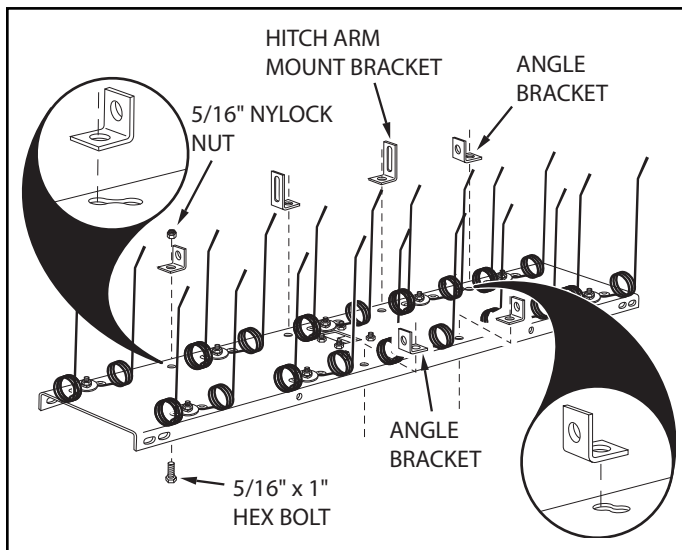
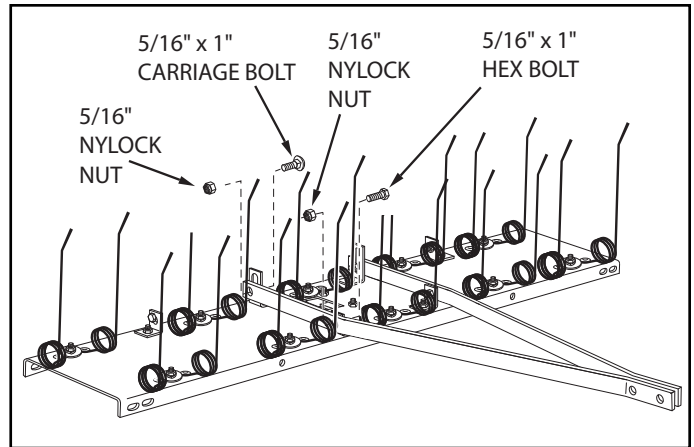
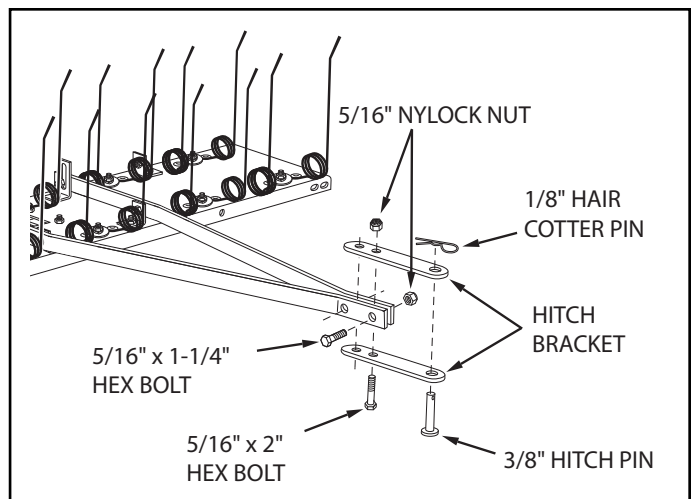

FIGURE 1
FIGURE 2
FIGURE 3
1. Assemble two (tall) hitch arm mount brackets and two (short) angle brackets (J) to the bottom of the tine shield at the rear. Use four 5/16" x 1" hex bolts (D) and 5/16" nylock nuts (I). **Do not tighten yet.** Position the brackets as shown in figure 1.
2. Assemble two angle brackets to the bottom of the tine shield at the front. Use two 5/16" x 1" hex bolts (D) and 5/16" nylock nuts (I). **Do not tighten yet.** Position the brackets as shown in figure 1.
3. Fasten the hitch mount arms to the outside of the front angle brackets. Use two 5/16" x 1" hex bolts (D) and 5/16" nylock nuts (I). **Tighten**, then **loosen** the nuts slightly. See figure 2.
4. Fasten the hitch mount arms to the outside of the rear hitch arm mount brackets. Use two 5/16" x 1" carriage bolts (E) and 5/16" nylock nuts (I). **Do not tighten yet.** See figure 2. **Be sure to use carriage bolts for the rear hitch arm mount brackets and not hex bolts.**
5. Assemble the front ends of the hitch mount arms together using two 5/16" x 1-1/4" hex bolts (C) and 5/16" nylock nuts (I). **Do not tighten yet.** See figure 3.
6. Assemble the hitch brackets to the top and bottom of the hitch mount arms using two 5/16" x 2" hex bolts (B) and 5/16" nylock nuts (I). **Do not tighten yet.** See figure 3.
7. Assemble the 3/8" hitch pin (F) through the hitch brackets and secure it with a 1/8" hair cotter pin (G). See figure 3.
- Tighten** the bolts and nuts assembled in figure 3. **Tighten** the bolts and nuts assembled in figure 1. **Tighten** the rear bolts and nuts assembled in figure 2.